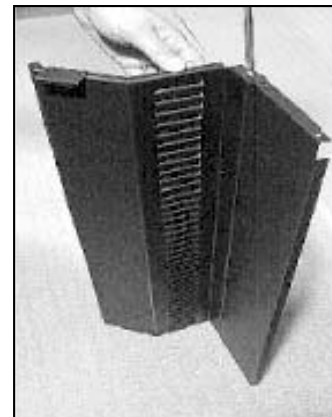
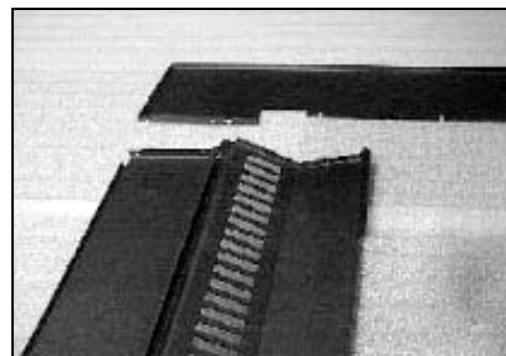

Figure 22.4
Figure 22.5
3. Stand assembly on end and attach and install (1) 8-32 x 3/8 inch screw through tab in side panel and curtain. **Figure 22.4**. Lay face down as shown in **Figure 22.5**.